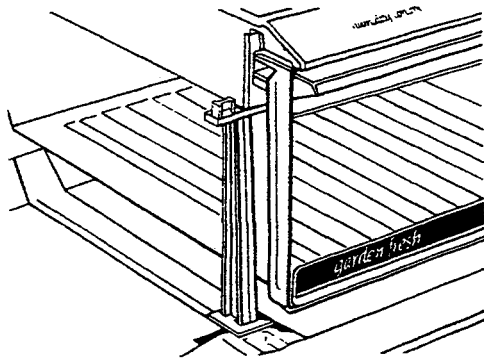

Figure 31
- h. Remove crisper from support which fits into recess at bottom center of refrigerator. See Figure 31.